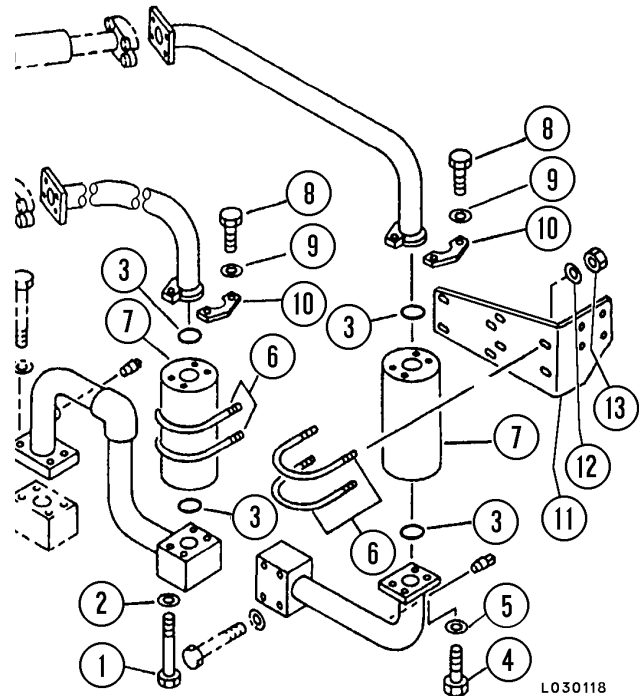

FIGURE 4-6. HIGH PRESSURE FILTERS & PIPING
4. Remove capscrews (1, 4, & 8, Figure 4-6), washers (2, 5, & 9), and split flanges (10) securing filters (7).
5. Remove nuts (13) and washers (12) holding U-bolts (6) to bracket (11). Remove filter assemblies (7). Discard O-rings (3).
1. Remove plugs and/or covers from connections. Install new O-rings (3, Figure 4-6) in all locations. Install filter assemblies (7) to outlets and install capscrews (1 & 4), washers (2 & 5). Do not tighten capscrews to final torque at this time.
2. Move hydraulic tubes to filter housings inlets and reconnect with capscrews (8), washers (9), and split flanges (10). Do not tighten capscrews to final torque at this time.
3. Install U-bolts (6) holding filter assemblies (7) to bracket (11). Install washers (12) and nuts (13). Do not tighten nuts to final torque at this time.